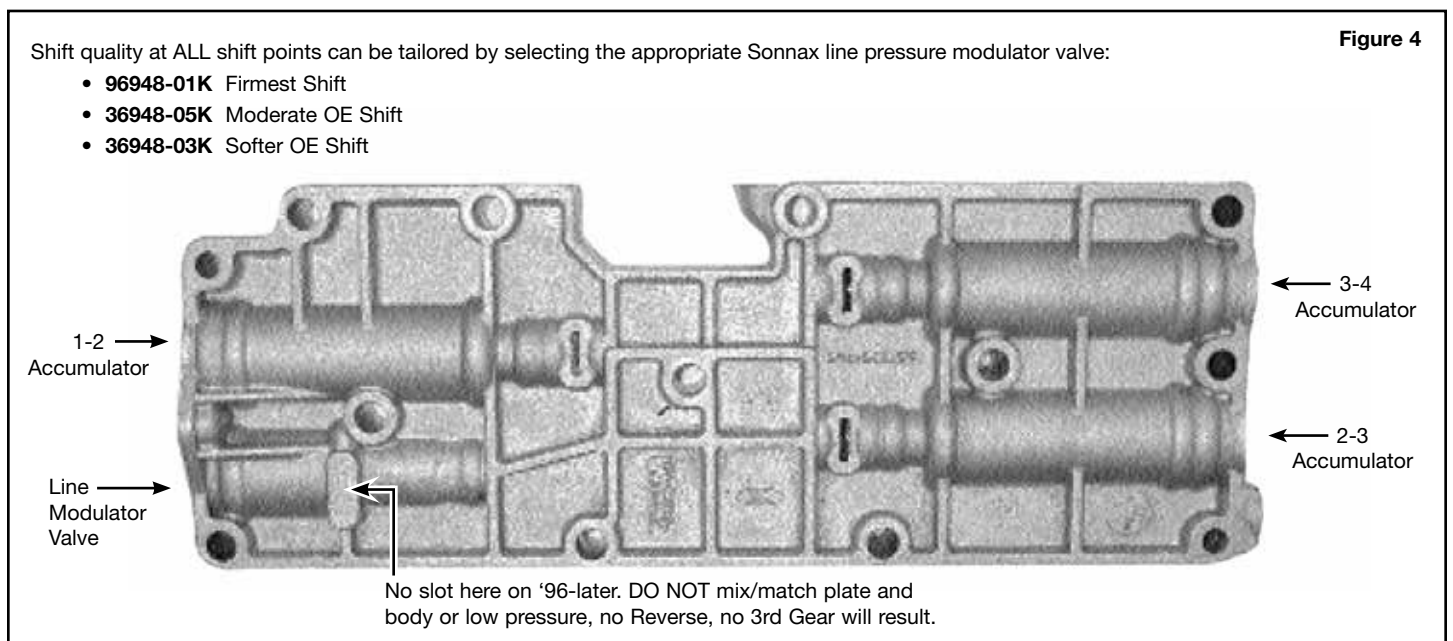

Figure 4
- a. Increase the diameter of the line modulator valve (**Figure 4**).
Install a smaller diameter line modulator valve (**Figure 4**).